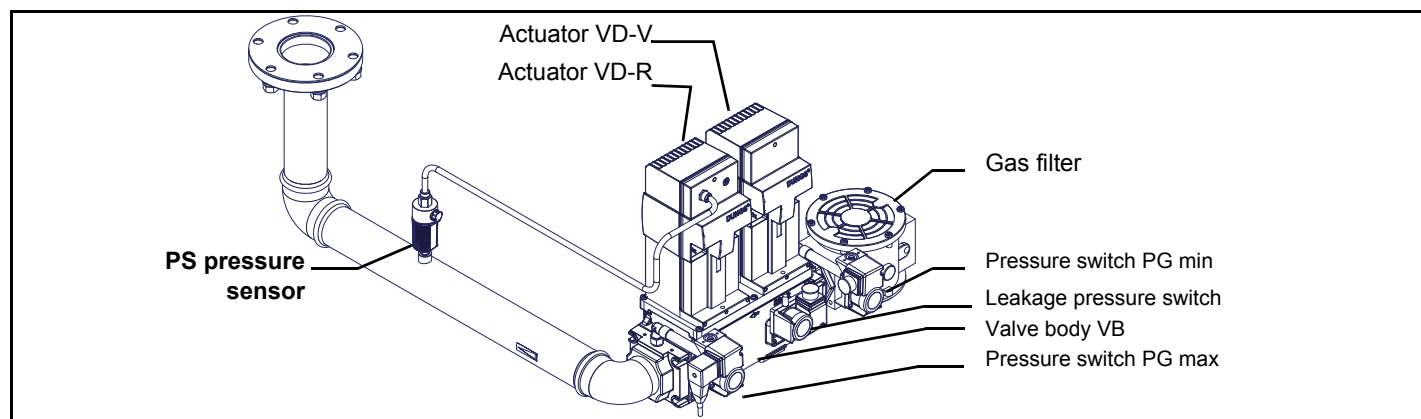

Fig. 1 Example of gas train MBE
- two (2) gas flanges are required; they may be threaded or not depending on size;
**ATTENTION:** once the gas train is mounted according to the diagram on Fig. 1, the gas proving test must be performed, according to the procedure set by the laws in force.